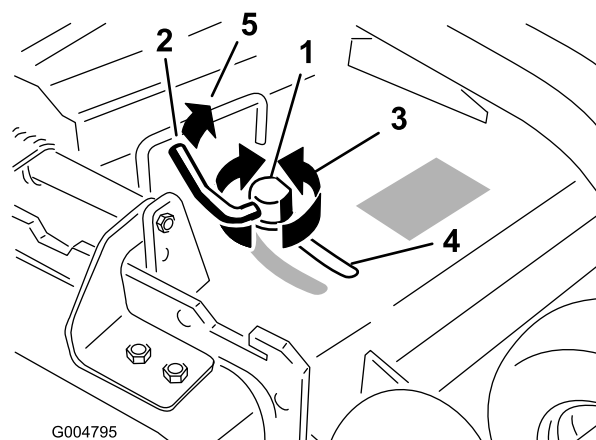

Figure 16
3. To adjust the cam lock, swing the lever up to loosen the cam lock (Figure 16).
5. Swing the lever back over to tighten the baffle and cam lock (Figure 16).